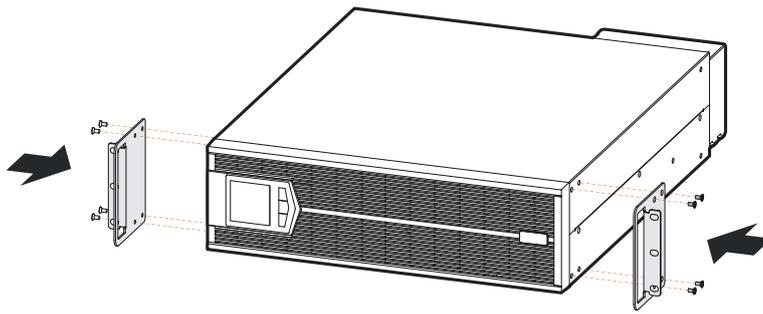

Figure3-9 Install angle iron
- Step 1 Fasten the two angle irons onto the two sides of the UPS by 4 sunk screwsM4×8, as shown in Figure3-9.